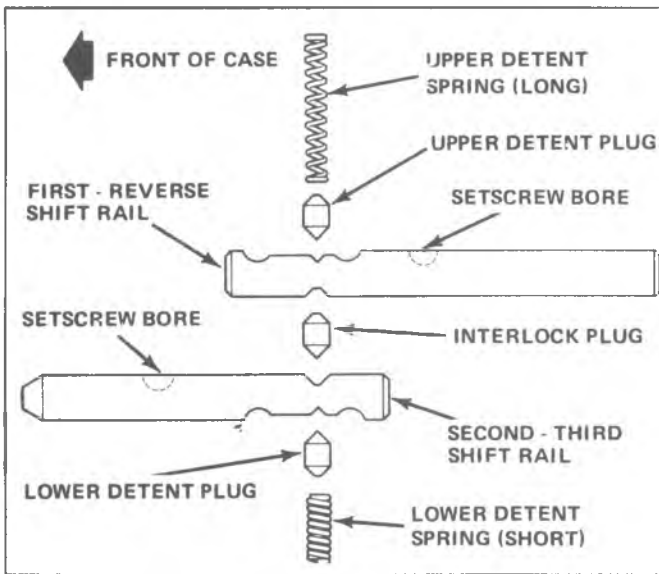

Fig. 7B-21B--Installation Sequence - Detent Plugs and Springs
7. Align bore in countergear with countershaft and front thrust washer, then start countershaft into countergear. Before countershaft is completely installed make sure that roll pin hole in countershaft is aligned with hole in case. When holes are aligned, tap countershaft into place, remove tool J-25232 (Fig. 7B-5B).
10. Lower shorter detent spring in detent bore in case (Fig. 7B-21B). Allow spring to drop into place at bottom of Second-Third shift rail bore. Insert lower detent plug in detent bore on top of spring.
12. Install (15) roller bearings in clutch shaft bore. Use vaseline (or equivalent) to hold bearings in place.